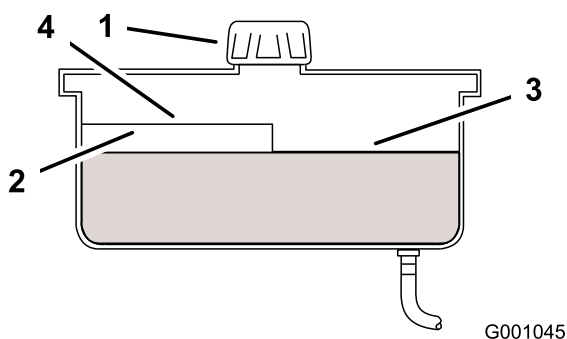

Figure 48
4. Clean area around cap and filler neck of hydraulic tank (Figure 48).
5. Remove cap from filler neck. Look inside to check the fluid level in the reservoir. (Figure 48).
Note: The fluid level should be to the top of the hot level of the baffle, when the fluid is warm (Figure 48).